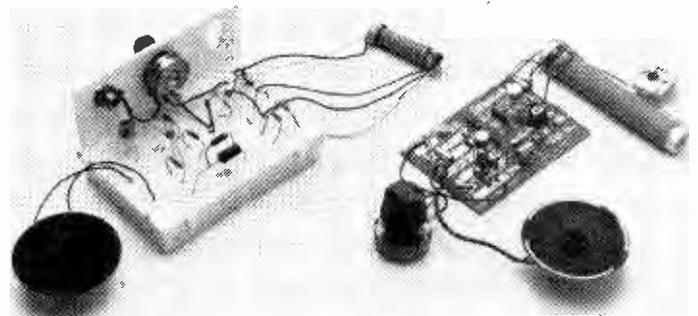

Fig. 5
**S Dec**, see Fig. 5, measures 114 × 76mm and follows the socket connection system in Fig. 1(b). The board is designed to accept only discrete components with lead diameter up to 1mm. The layout has 70 sockets arranged in seven rows each with two strips of five linked sockets. The double-sided sockets are constructed from brass, and are rated at 5A. Each hole is numbered from 1 through to 70 on the top of the board.